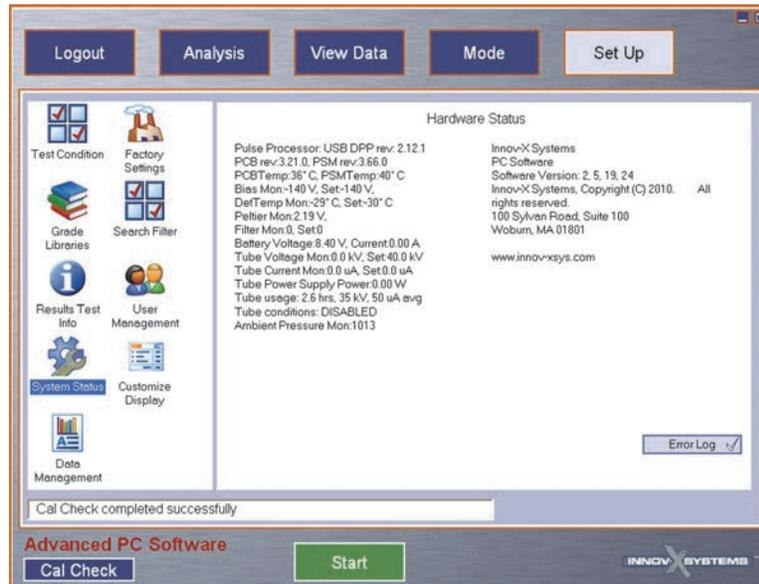

Figure 1-23 The Hardware Status pane
1. Click the **System Status** icon () to display the **Hardware Status** pane (see Figure 1-23 on page 20).